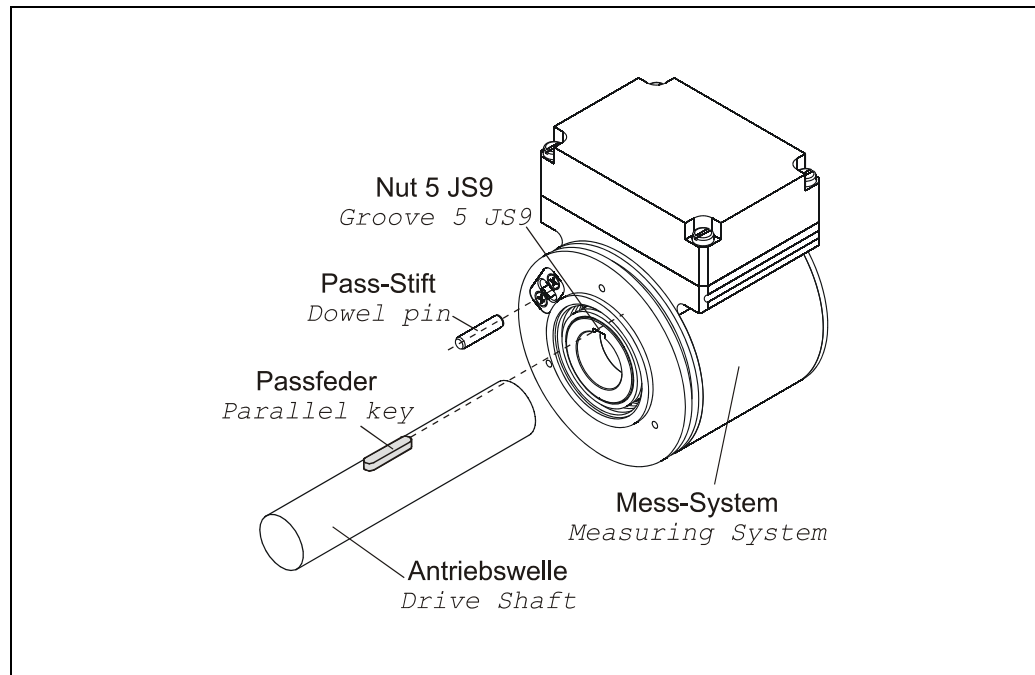

Figure 5: Form closure
- Radial slipping of the measuring system on the drive shaft must be prevented by means of form closure, using a parallel key / groove combination; the measuring system must be fixed on the side of the drive using a dowel pin, see Figure 5.